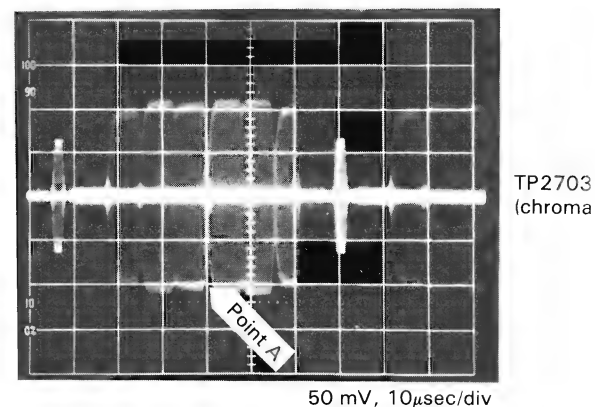

Figure 2-15
4. Adjust R2710 (B-Y Carry BAL.) and R2709 (R-Y Carry BAL) using a alternately to minimize noise at point A in Fig. 2-15.